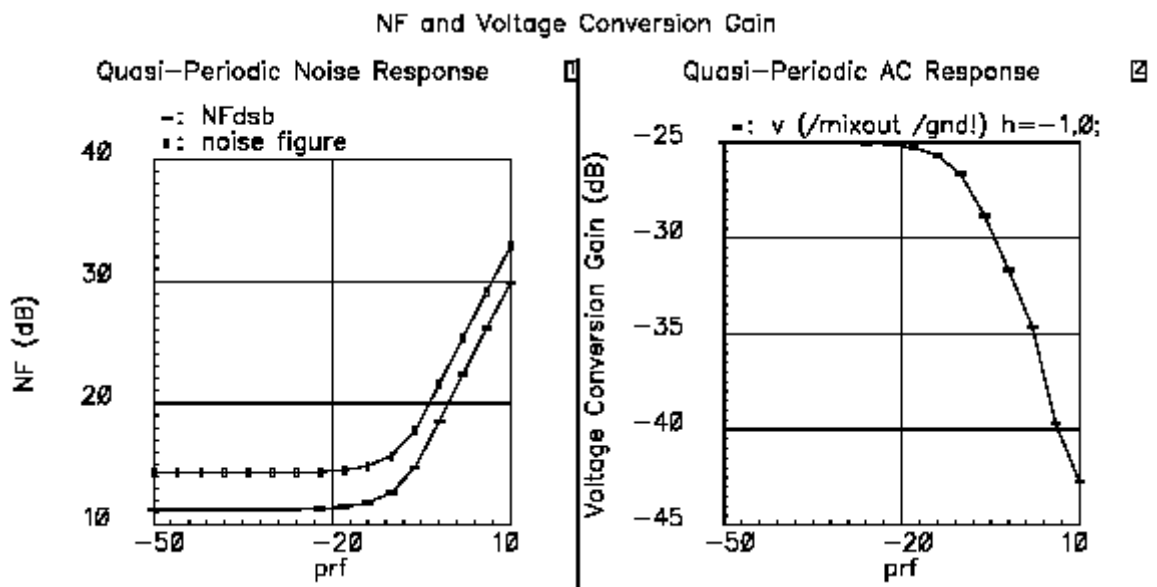

Fig 14: Voltage Conversion Gain & NF in presence of Blocking Signal
- *View the results as shown in Fig 14 (left)*
- *View the results as shown in Fig 14 (right)*